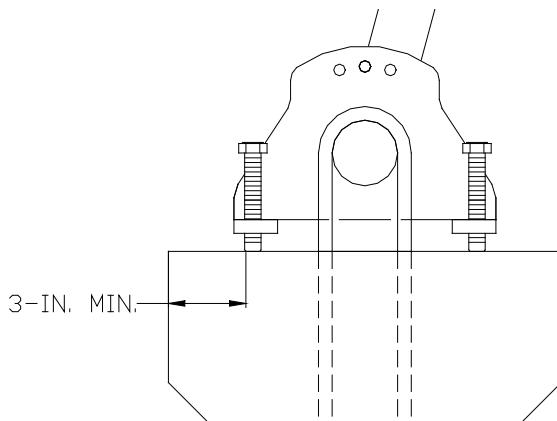

Figure 1c
5. Measure the distance from edge of adjusting bolts to nearest edge of concrete. If distance is less than 3-in., a steel plate with a minimum thickness of 0.25-in. must be place under the adjusting bolt to prevent the bolt from causing a “compression blowout” during tightening. Each adjusting bolt that is closer than 3-in. to an edge must have a plate underneath (see Figure 1c).